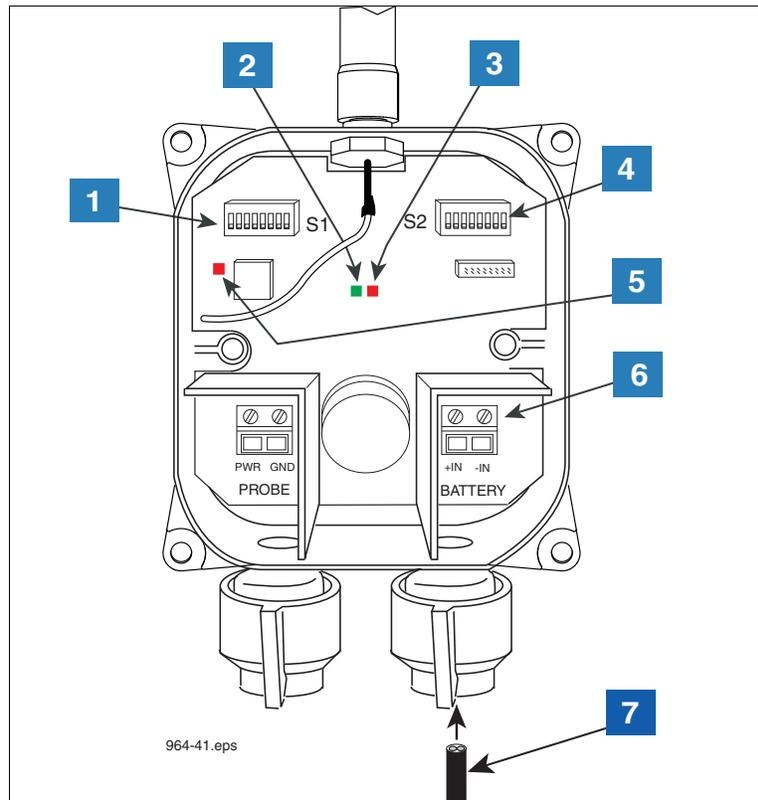

Figure 5. Wiring the Battery Cable to the Transmitter
- e. Connect the battery pack/dc power cable to the BATTERY terminal block (white to +IN and black to -IN) as shown in Figure 5.
LEGEND FOR NUMBERED BOXES IN Figure 5
- a. Connect the first Transmitter's battery cable to a battery pack; noting the Red LED should be flashing momentarily then followed by the Green LED (refer to item 2 and 3 in Figure 5). Since there is no Sensor connected, the two LEDs should be flashing. This is an indication a Sensor communication error and is acceptable at this step.